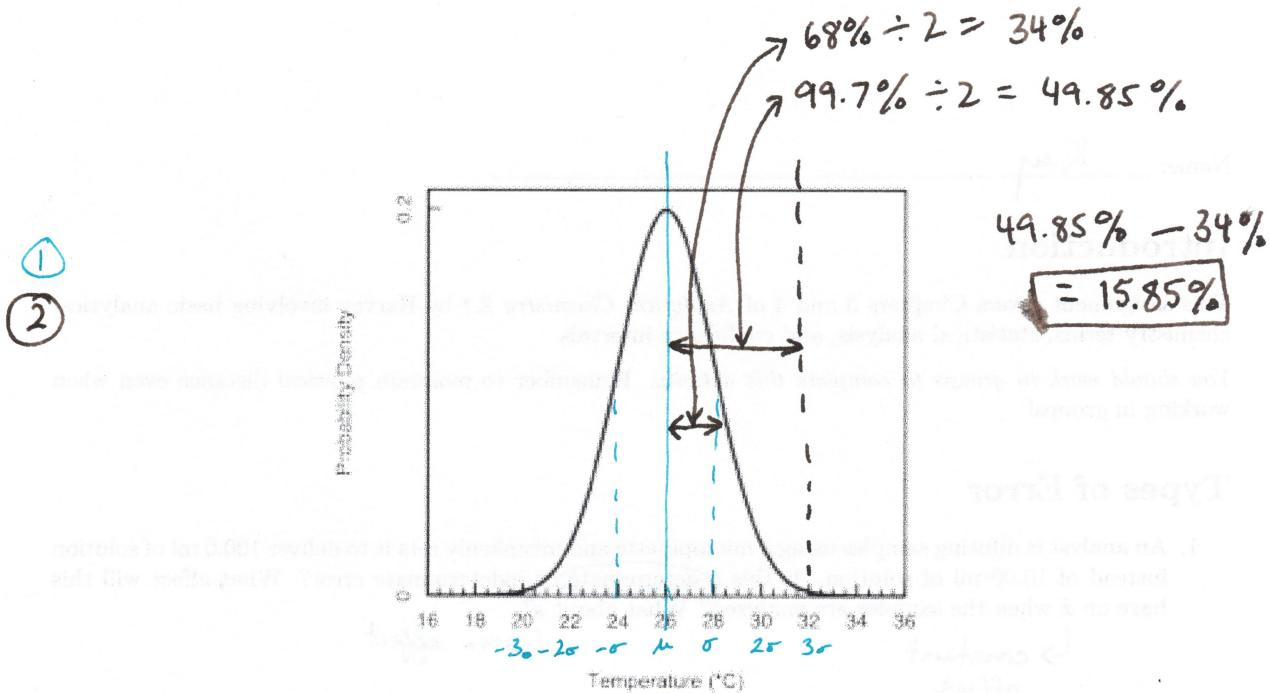

Figure 1: Normal distribution of daily high August temperature in Altamont.
1. The normal distribution in Figure 1 represents the theoretical daily high temperatures for the month of August in Altamont. The population mean is $\mu = 26^\circ\text{C}$ and the population standard deviation $\sigma = 2^\circ\text{C}$.